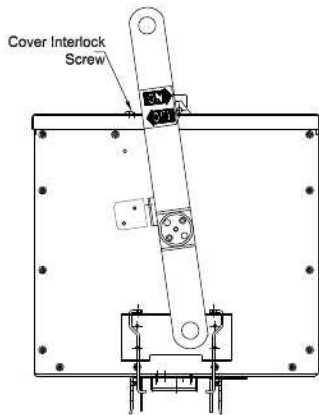

Figure 26. SENTRON Plug Handle Horizontal Installation
11.1.3 Some configurations of SENTRON Bus Plugs utilize a dual position handle. Follow the instructions located inside the bus plug cover to position the handle as required for either horizontal or vertical installation, see Figures 26 and 27.
11.1.4 If service or testing is required while the installation plug is in the **ON** position, the cover interlock can be defeated by rotating the cover interlock screw counter-clockwise (Figures 26 - 29). Service should only be performed by qualified personnel.